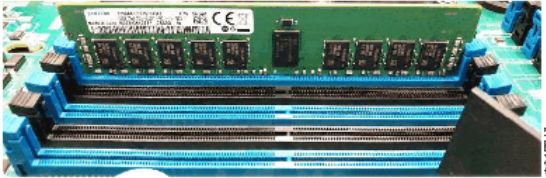

Figure 83. Installing the DIMM
13. Insert the DIMM into the connector by aligning the edges of the DIMM with the slots at the ends of the DIMM connector, as shown in Figure 83 on page 138.